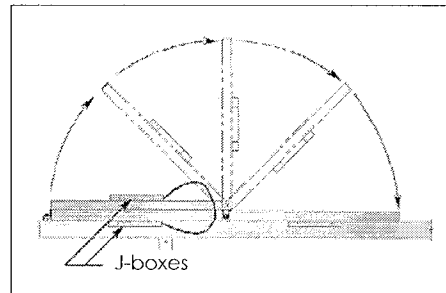
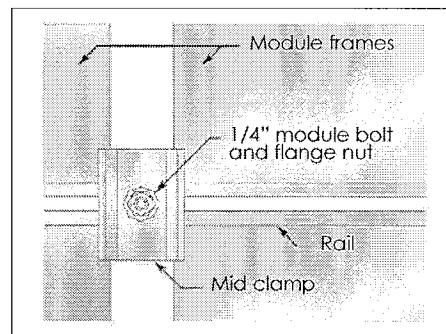

Figure 17
Figure 19
**Installing the Other Modules.** Lay the second module face down (glass to glass) on the first module. Connect intermodule cable to the second module and close the J-box cover. Turn the second module face up (Fig. 17). With T-bolts, mid-clamps and flange nuts, secure the adjacent sides of the first and second modules. Align the second module and securely tighten the flange nuts (Fig. 19).